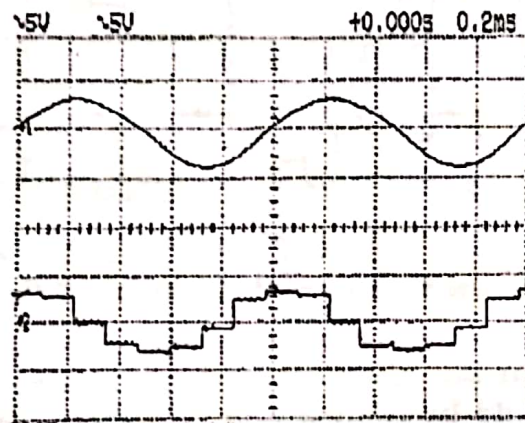

Figure 5-11. Message Signal(above) & D/A conversion demodulation output(below)
(13) Remove AUDIO INPUT of PCM-1 module connected to SINT input of SIGNAL SOURCE temporarily and also remove connection line connecting J1 terminal and J2 terminal temporarily.
(14) Connect DC VOLTAGE +5[V] output terminal of POWER SUPPLY to J2
(18) If we set INPUT COUPLING of oscilloscope CH-1, 2 to AC and connect each probe to TP1 and J3 terminal of PCM I, wave form of figure 5-11 would be appeared in oscilloscope screen. At that time, set TIME/DIV of oscilloscope to  $50[\mu s]$ .